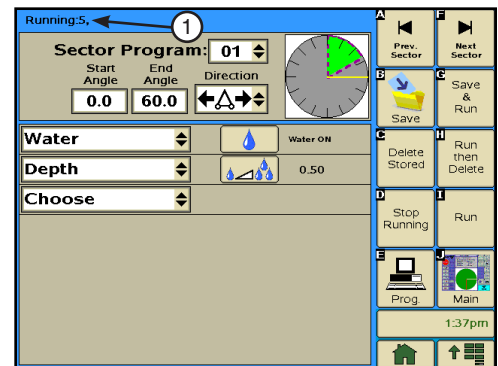

Figure 95-2 1. Program Running Indicator
- The sector program number appears at the top of the screen after the Running heading. Refer to Figure 95-2.